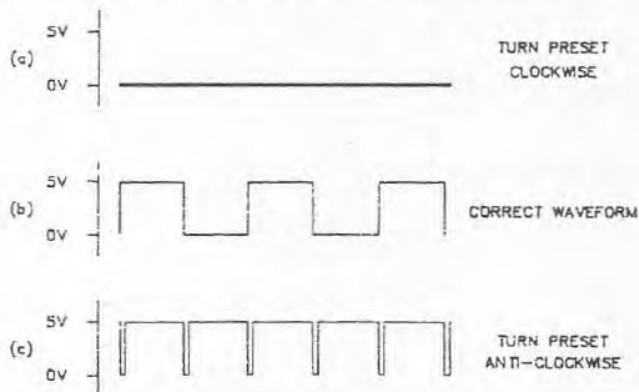

figure 3
- 15.02 Monitor test point A on Convertor Board using an oscilloscope with time-base set to 20uS per div. Adjust preset P2 for a display like figure 3(b). This should be done with the D.S.P Board in its normal position.